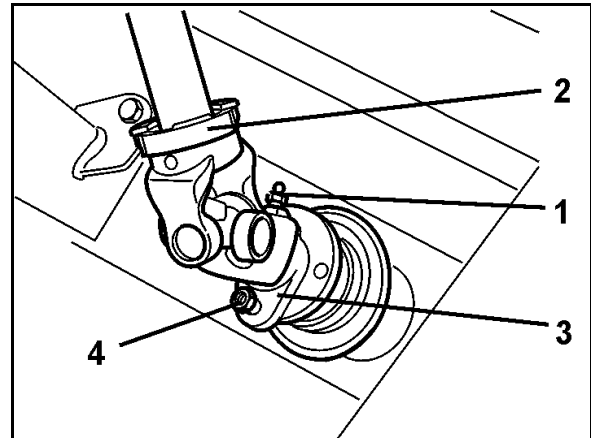

Fig. 85
1. Remove the grease nipple (Fig. 85/1) in the connection fork (Fig. 85/2) of the PTO shaft.
2. Remove the shear bolt (Fig. 85/4) between the fork flange (Fig. 85/3) of the PTO shaft and the flange of the gearbox input shaft.